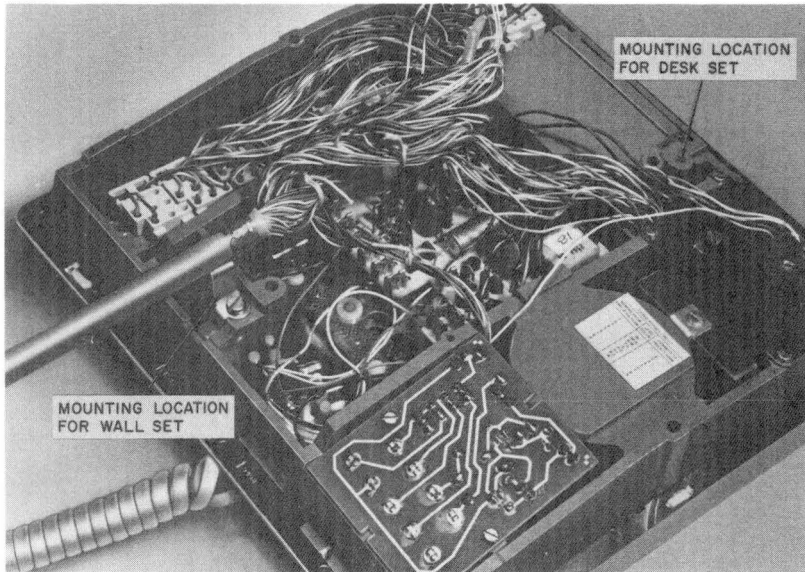
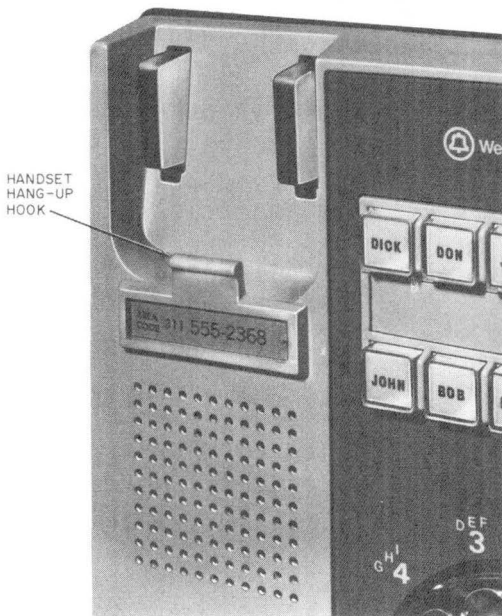

Fig. 8—Set Modification For Wall Mounting
Fig. 9—Handset Hook Attachment For Wall Set
- (1) Loosen four screws and remove the lower housing.
- (2) Remove screw holding mounting cord attachment bracket at rear of set.
- (3) Refasten bracket using screw in the position shown in Fig. 8.
- (4) Rotate the lower housing 180 degrees from the desk model position and fasten housing to base.
- (5) If plastic designation card cover has been installed, remove cover using a KS-16750 releaser, then remove screw from recess and discard screw.
- (6) Install plastic handset hook (Fig. 9) from the D-180658 kit of parts using longer screw also furnished with kit.
- (7) Replace plastic designation card cover.